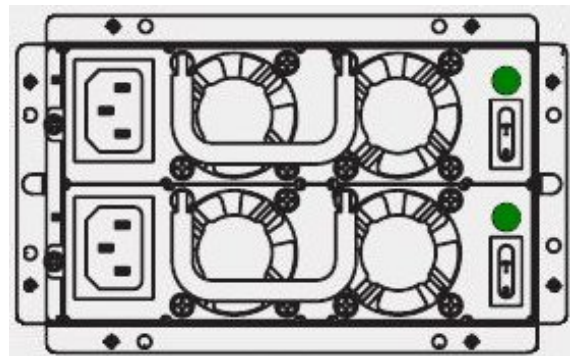

Fig. 20: Detail:
Please observe that the ON/OFF switch of the AC wide range redundant PSU (Fig. 20) does not disconnect the KISS 4U V2 platform from the main power source. Even you turn off the system using the power button (Fig. 12, pos. 3) or the ON/OFF switch of this PSU, there is still a standby-voltage of 5 VSb on the motherboard or SBC.